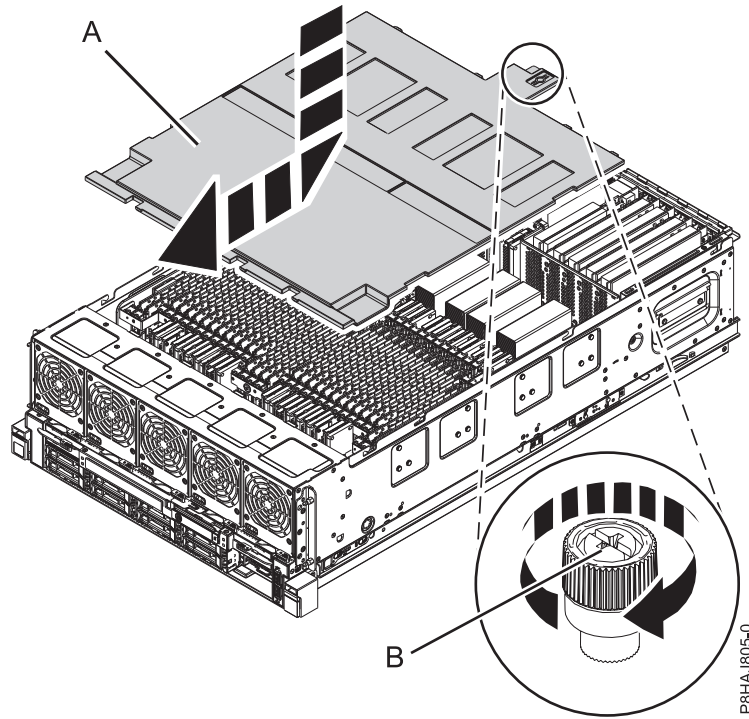

Figure 37. Replacing the safety cover
2. Push the safety cover (A) toward the chassis.
3. Tighten the thumbscrew (B) by turning it in the direction shown in Figure 37 on page 55 to fix the safety cover to the chassis.